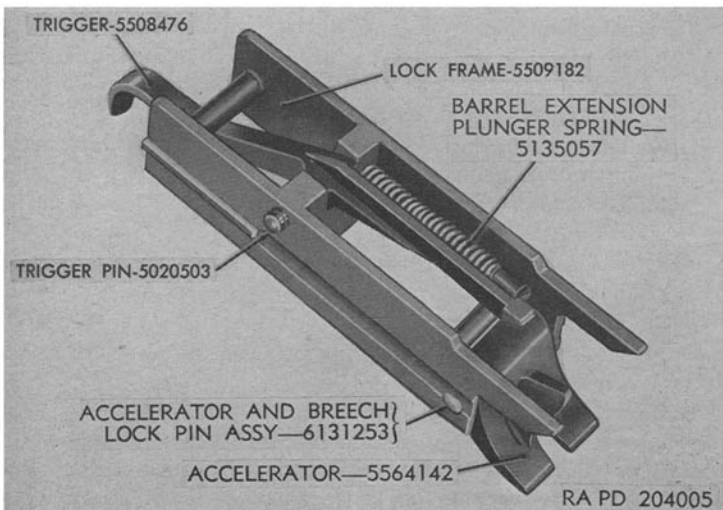

Figure 22. Lock frame group.
- (1) Examine the accelerator (figs. 22 and 23) for burred or worn surfaces.
- (1) Inspect the trigger (fig. 22) for bends, breaks, and wear. Check the trigger alinement in the lock frame.